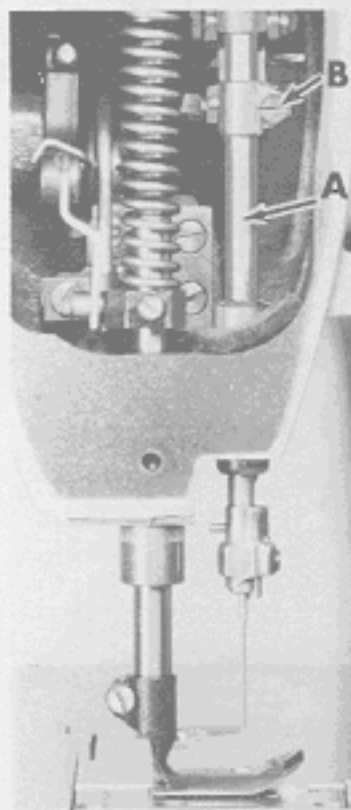

Fig. 8
The height of the needle bar (A, Fig. 8) is correct when the top of the left needle's eye is $\frac{1}{64}$ inch (.40 mm) below the underside of the looper, when the point of looper, moving to the left, is even with the left side of this needle. If adjustment is necessary, loosen screw (B) and reposition needle bar (A) up or down as required and retighten screw. Care must be taken not to disturb the alignment of the needle bar while making this adjustment, as the needles are to have equal clearance on both the right and left sides of the needle slots in throat plate.